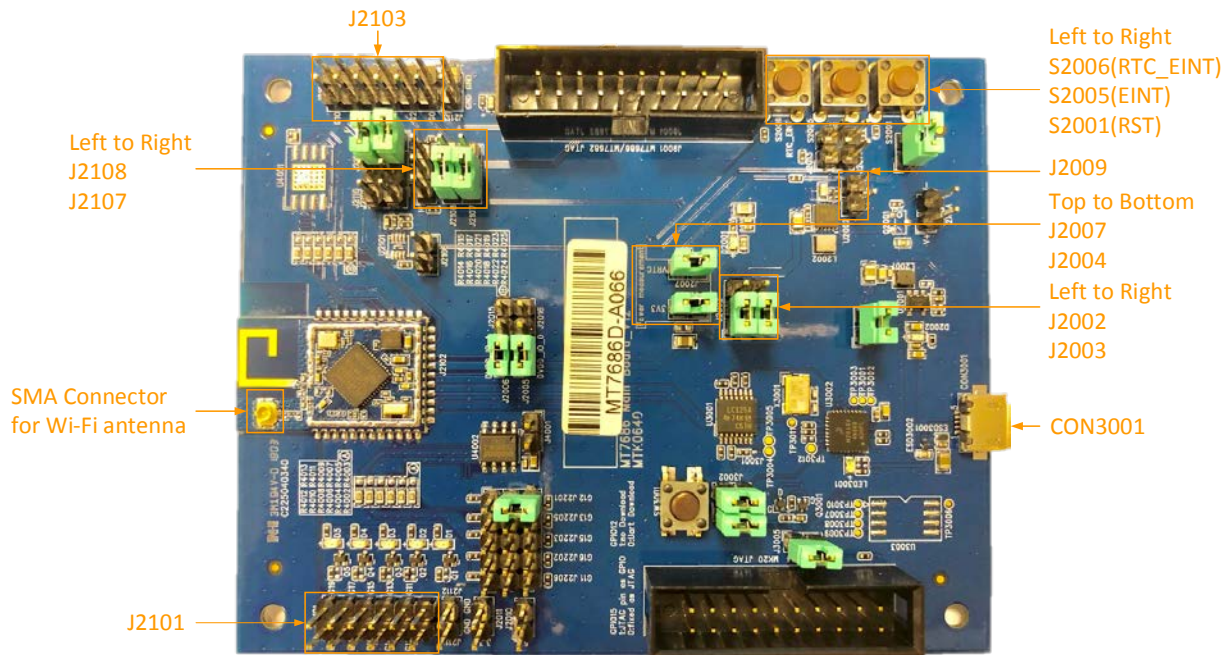
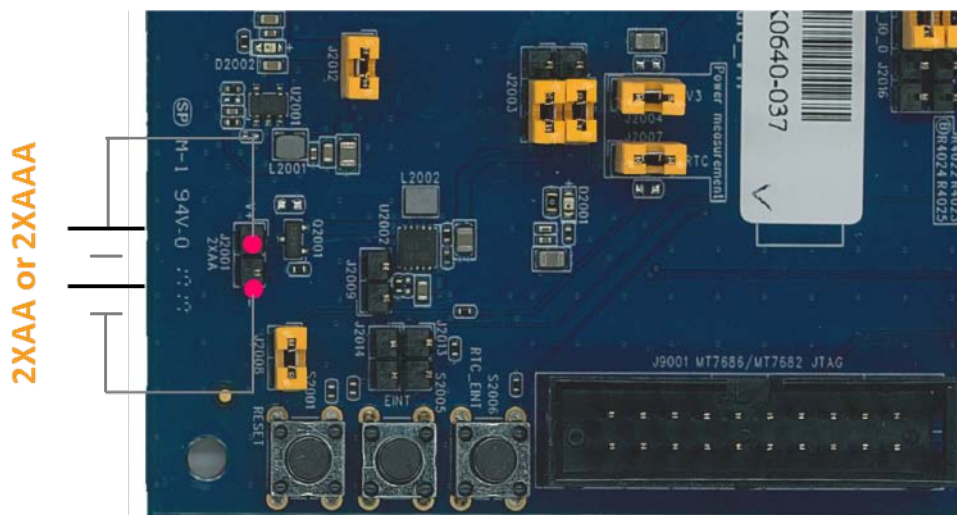

Figure 2. Jumpers and connectors on the MT7686 HDK
Figure 6. Power up the HDK using an AA or AAA Battery (J2001)
MT7686 HDK includes a main board (MT7686 Main Board_V11) and a MT7686 stamp module. The MT7686 stamp module is mounted on the main board. The top view of the main board is shown in Figure 2.
The description of pins (Figure 2) and their functionality is provided below.
The development board should now be connected to the PC, as shown in Figure 2.
An on-board switching regulator provides voltage of 3.3V for the MT7686 HDK based on MT7686F, if the power is supplied from an on-board micro-USB connector **CON3001** (Figure 2). This supply can be isolated from the switching regulator using the jumpers. Note, that the jumpers **J2002** pin 1 and pin 2, **J2003** pin 1 and pin 2, **J2004** and **J2007** are required to be set on. More details on the jumpers can be found in Table 1.
- Connect an external AA battery to battery pin header (**J2001**) to supply power to the system, as shown in Figure 6. When using an AA battery, plug the USB to micro-USB connector **CON3001** (Figure 2). Note, that the jumpers **J2002** pin 2 and pin 3, **J2003** pin 2 and pin 3, **J2004**, **J2007**, and **J2009** are required to be set on. More details on the jumpers can be found in Table 2.